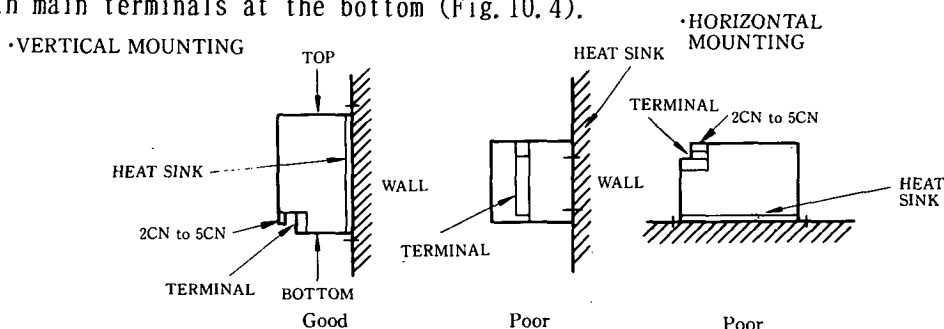

Fig. 10.4 Mounting Direction of Servopack
Mount the unit vertically on the wall using the mounting holes (4) on the base plate, with main terminals at the bottom (Fig. 10.4).